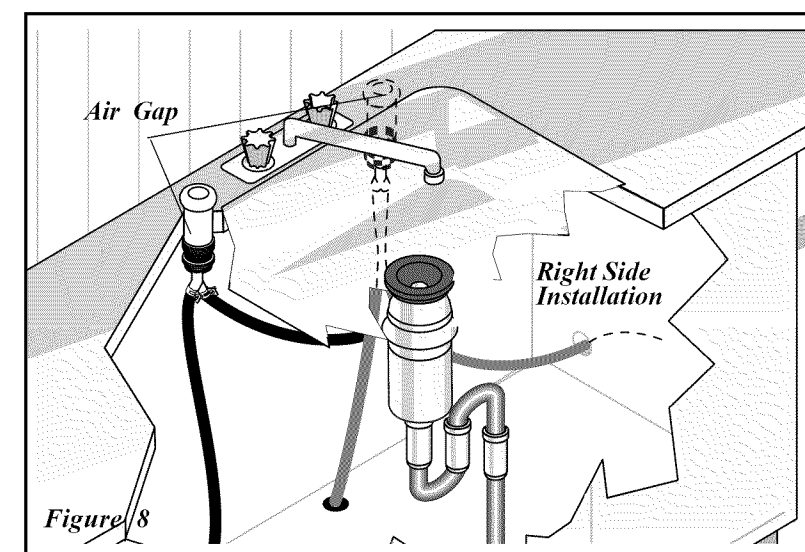

Figure 8
3. If you connect to a sink trap, local codes may require you to install an air gap kit, (not included). The drain hose will be routed from dishwasher to air gap inlet as shown in **Figure 8**. An air gap kit is available from a plumbing supply store. (If the drain hose is installed through the floor, an air gap is necessary).